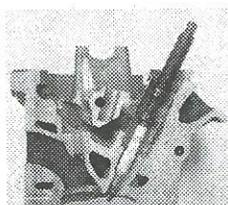
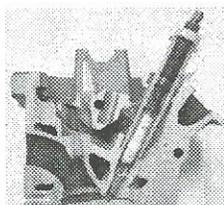

Fig. 1
Fig. 2
2. Remove the right hand nut from the porcelain puller (1).
3. Press the puller down onto the terminal of the spark plug until it snaps on. Fig. 1.
4. Insert the Puller Housing (4) into the hole around the Porcelain Puller.
5. Thread the right hand nut on to the Porcelain Puller (1).
6. Use a 3/8" wrench to hold the Porcelain Puller and a 15/16" wrench to turn the right hand nut until the porcelain is released. Fig. 2.